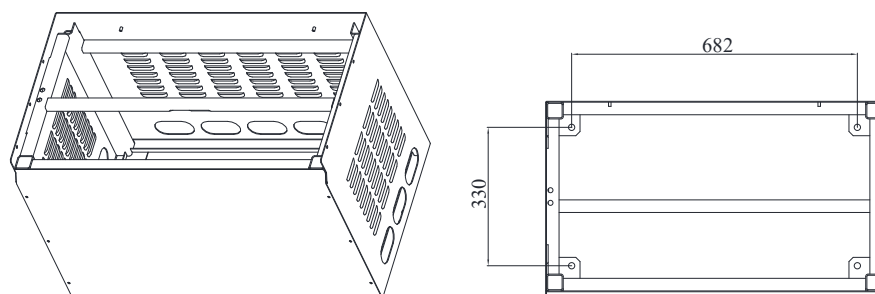

Fig. 4 Dimensional diagram for J type with an optional base
- Note 4: J type structure has a base as standard configuration, with its height H of 1633 including base; the fixed holes are shown in Fig. 4.